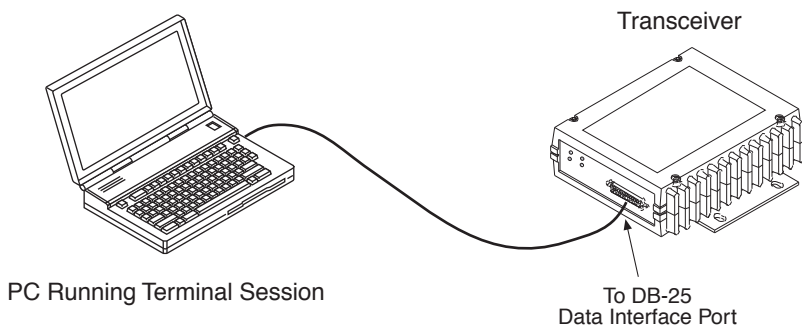

Figure 6. PC Configuration Setup
- a. Connect a PC to the transceiver's DATA INTERFACE connector as shown in **Figure 6**. If desired, a cable may be built using the information shown on **Page 13** of this guide.